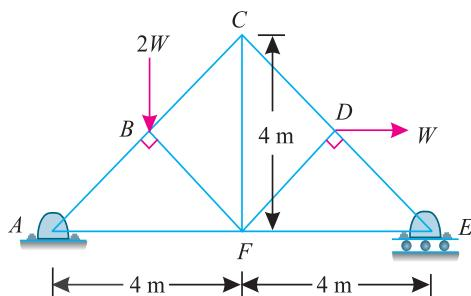

Fig. 12.28.
**Example 12.13.** A truss of 8 m span and 4 m height is loaded as shown in Fig 12.28.